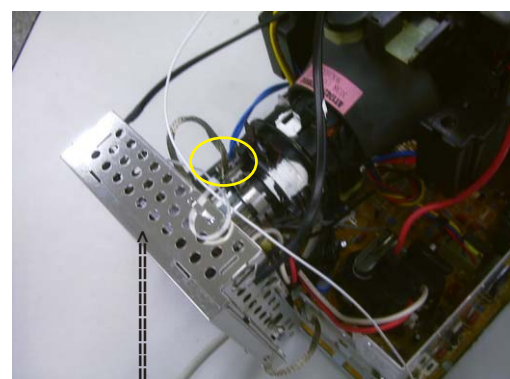

Fig. 5
- Disconnect the wire between metal shield of Video panel and CRT neck as shown in Fig. 5.